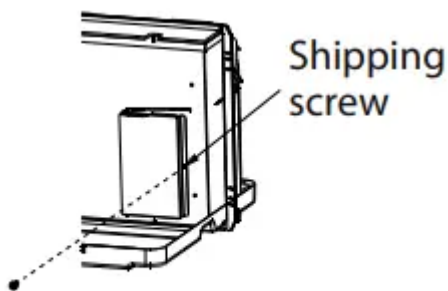

Fig. 9
- Remove the shipping screw from the vent door - only if ventilation is desired.(see Fig. 9)
- Make sure to remove the shipping screw from the vent door. (see Fig. 9)